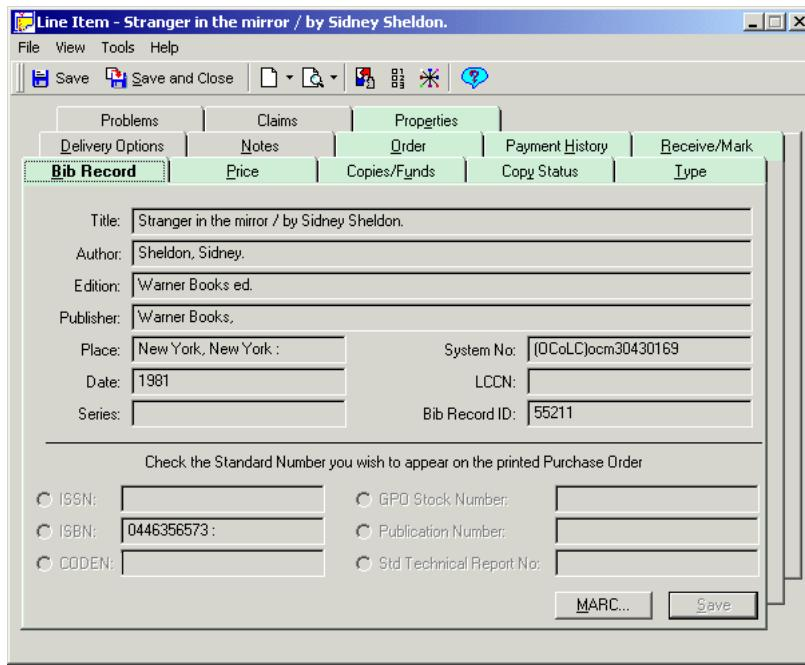

Figure 13-3. Line Item dialog box - Bib Record Tab
- The **MARC** button on the **Bib Record** tab (Figure 13-3) of a line item, which displays brief descriptive data from the bibliographic record associated with the line item. See Bib Record Tab on page 6-42 for more information.